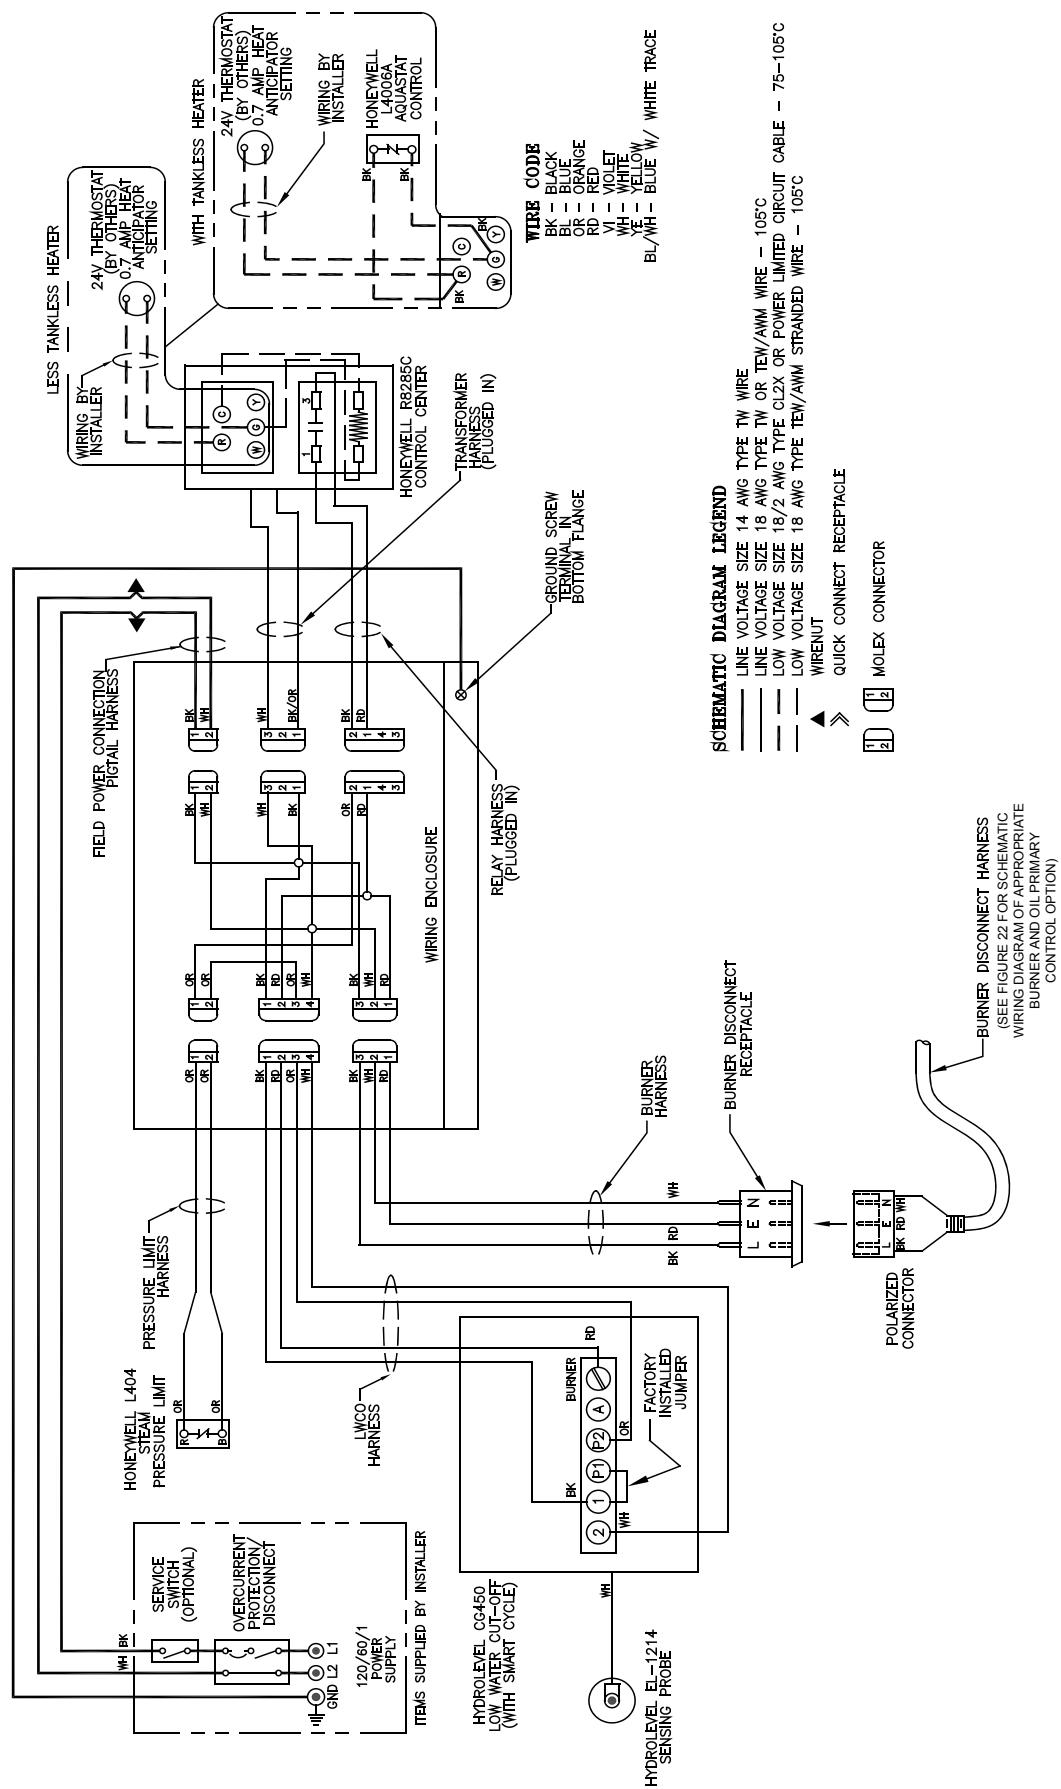

Figure 20: Wiring Diagram, Hydrolevel CG450 Probe LWCO
5. Use armored cable (BX) over all exposed line voltage wiring.
7. Wiring should conform to Figures 20 and 21.
Heat Anticipator in Thermostat should be set to match the requirements of the control to which it is connected. See Figures 20 and 21 for desired system and heat anticipator setting. If system tends to overheat above the thermostat's temperature setting, reduce heat anticipator setting by .1 or .2 amps. If system tends to short cycle without reaching desired room temperature, increase heat anticipator setting by .1 or .2 amps.
BOILER SEQUENCE OF OPERATION WITH PROBE LWCO (See Figure 20)